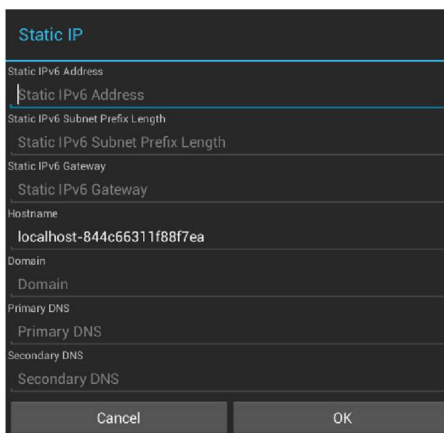

FIG. 59 Static IP (IPv6) window
3. Press the Static IPv6 Address field to set the static IP address for this panel, via the Static IP window (FIG. 59):